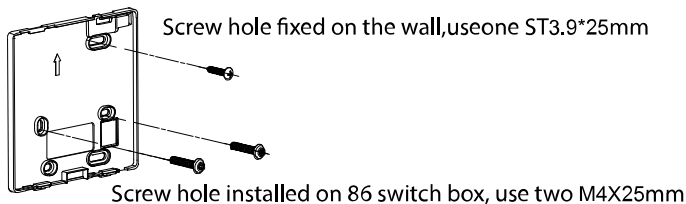

Fig. 4 – Install Back Cover
- Use Use two M4X25 screws to install the back cover on the 86 switch box and use one ST3.9*25 screw to fix to the wall (see Fig. 4).